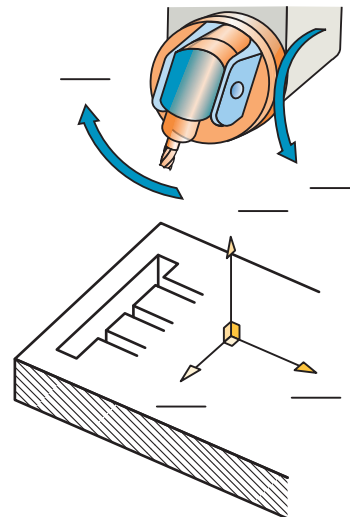
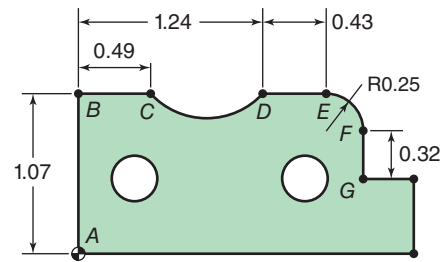

Figure 24-29 Identify these CNC axes.
Figure 24-30 Review Problem 4. How can these points be identified?
1. Based on Fig. 24-29, identify the five axes of a CNC vertical mill and the sign value for each (plus or minus). (17)
2. If the spindle of a CNC turning center is programmable—that is, it can make controlled angular movements as would an indexing head—it is identified as the _____ axis. (17)
3. Is this statement true or false? According to the *rule of thumb*, by pointing the thumb of your right hand along the positive axis of rotation, your fingers will curl in the positive direction of rotary motion. If it is false, what will make it true? (17)
4. In handwriting the program coordinates for Fig. 24-30, what would be an easy method of avoiding calculations for points E, F, and G? (23)
5. In programming Fig. 24-30, the correct answer was to switch to incremental coordinates at point D. What EIA code made that change? (22)
6. The modal code required in Question 5 for incremental values will remain in effect until _____. (22)